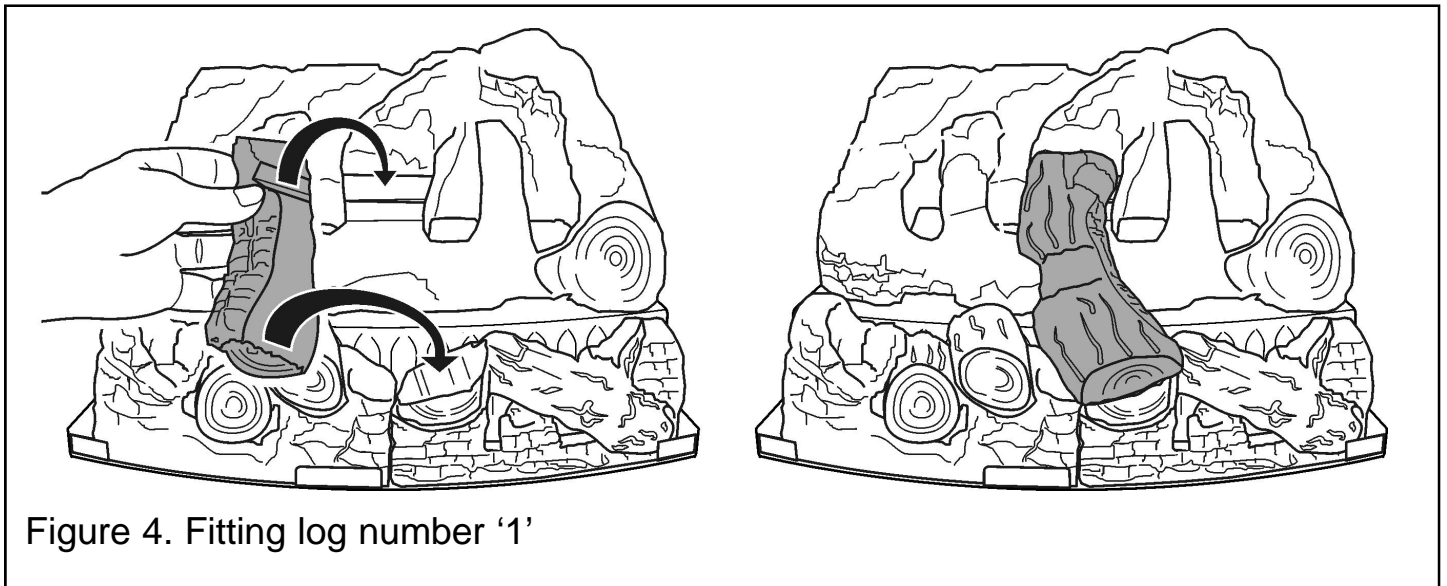

Figure 4. Fitting log number '1'
4. Remove log number '1' from its protective packaging and position it as shown in figure 4. When located correctly the front face will complete the log end on the right hand front base.